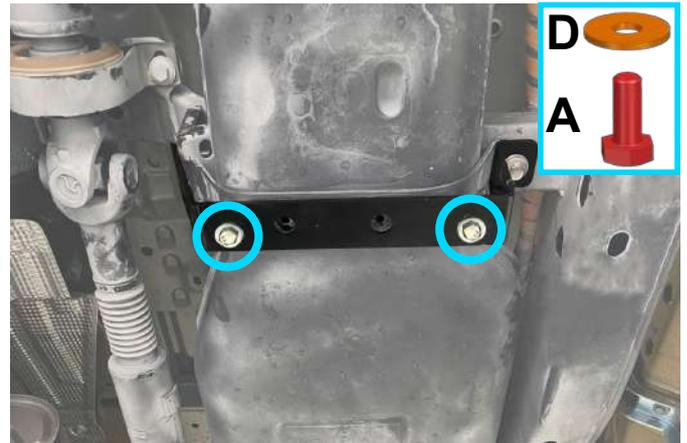

Fig. 8
6. Attach bolts M10x25 (item A) and washers 10 (item D) to installed front mount bracket (item 2) from step 2, as shown in fig.8.